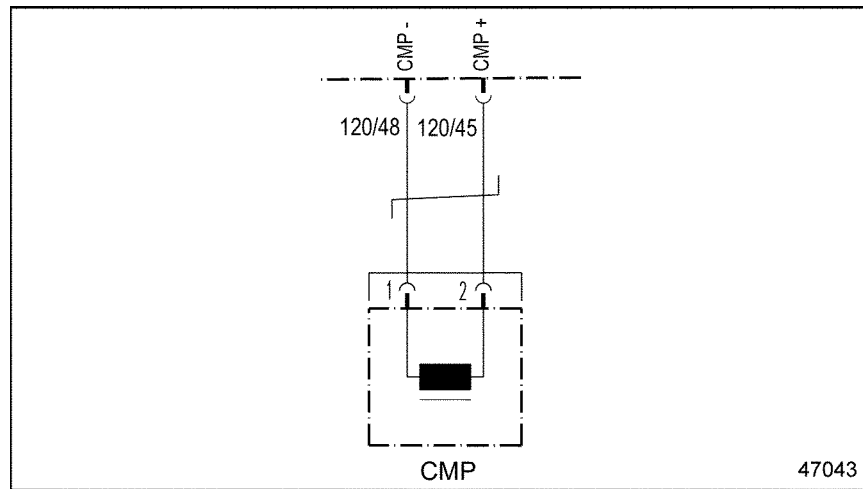

Figure 36-2 MCM — Camshaft Position Sensor Schematic
2. Measure the resistance between pin 1 of the CMP Sensor and ground. See Figure 36-2.